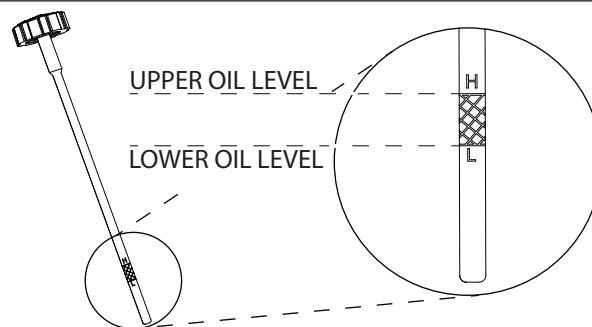

FIGURE 10: Dipstick And Oil Levels.
6. Reinsert drain plug to its original position and fill engine with appropriate oil to the top marking on the dipstick (**SEE FIGURE 10**). **DO NOT OVERFILL.** For proper oil capacity and specification, see the engine manufacturer's instructions.